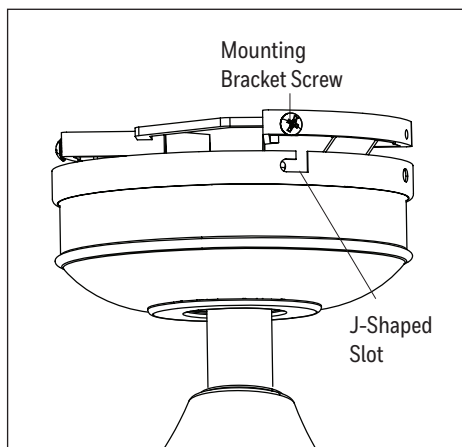

Figure 5.2
2. Raise the canopy, ensure the two mounting bracket screws are aligned with the J-shaped slots in the canopy. Then turn the canopy in a clockwise direction until the mounting bracket screws are completely engaged in the J-shaped slots (Figure 5.2).